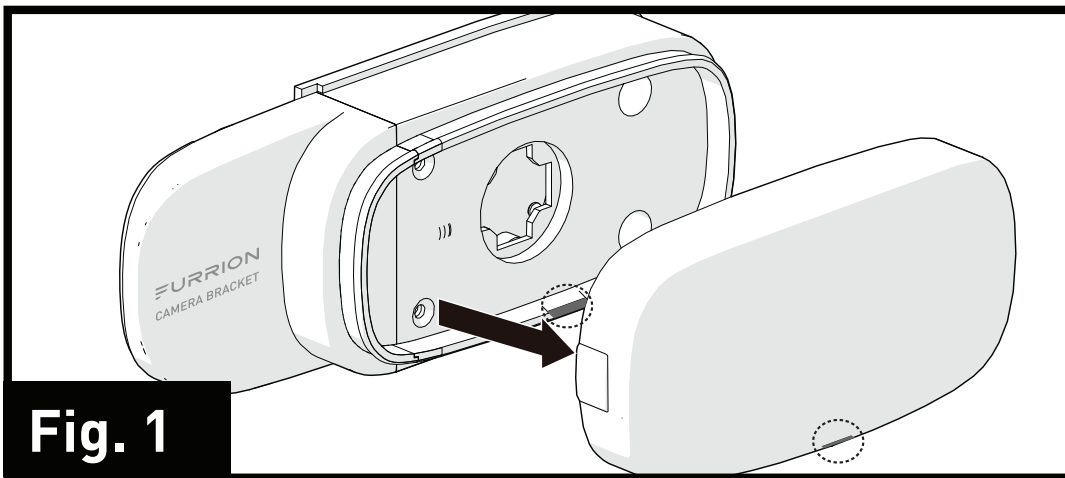

Fig. 1
2. Remove the lens cover by lifting the slot at the bottom of the traffic light. (Fig. 1)